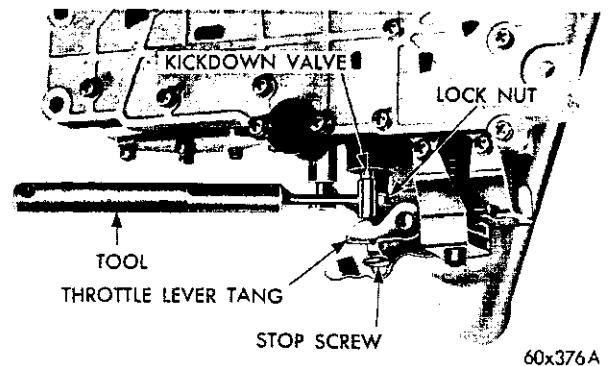

Fig. 29—Throttle Pressure Adjustment
(1) Remove the valve body assembly from the transmission to perform the adjustment.
(2) Loosen the throttle lever stop screw lock nut and back off screw approximately five turns (Fig. 29).
(3) Insert the gauge pin of Tool C-3763 between the throttle lever cam and the kickdown valve.
(4) By pushing in on the tool, compress the kickdown valve against its spring so the throttle valve is completely bottomed inside the valve body.
(5) As the force is being exerted to compress the spring, tighten throttle lever stop screw finger tight against the throttle lever tang with the throttle